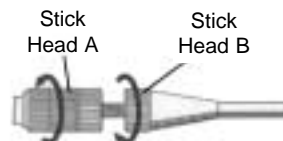

Figure 5
The stick lengths can be adjusted also. Referring to figure 5, turn the stick head (A) counter-clockwise and stick head (B) clockwise to unlock. Adjust the length to your preference and lock in reverse order.